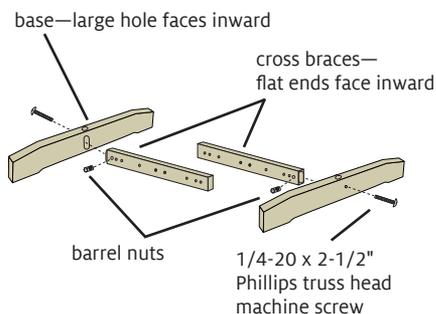

FIGURE 2: ATTACH CROSS BRACES TO BASES
- Orient both bases with the large holes facing each other (Figure 2).
- Orient the cross braces with the flat ends facing inward and the tenoned ends (with oval knobs) facing outwards, as shown in Figure 2.
- Insert a 1/4-20 barrel nut into the hole closest to the tenoned end of a cross brace. Using a 1/4-20 x 2-1/2" Phillips truss head machine screw, attach the base to the cross brace as shown in Figure 2. Repeat with the other base and cross brace.